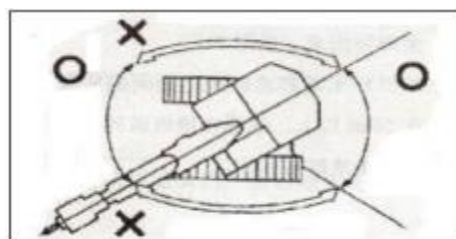

Fig3-61
8. The breaker can only work at the front or rear of the excavator. Do not use the breaker on either side of the excavator, and do not rotate it back and forth during operation. See Figure 3-61